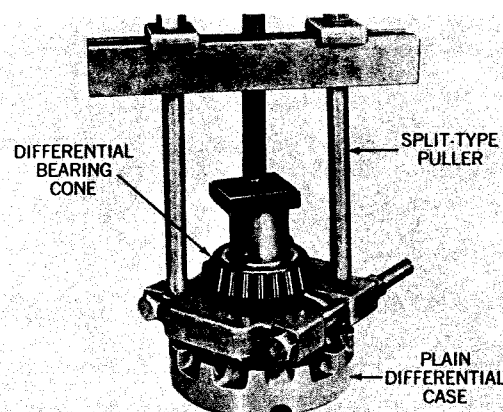

Fig. 101.
4. Refer to figure 101. Remove bearing cones from differential cases using split-type bearing puller. To remove ring gear from flanged differential case, drill off the flat head (on ring gear side) of rivets and drive out rivets.